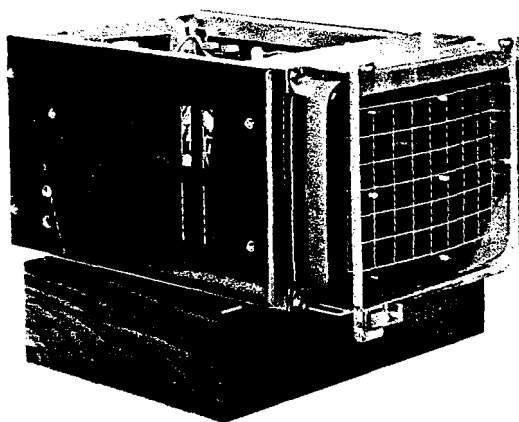

Figure 3-17. Display Adjustments Setup
1. Install the template over the front of the CRT as shown in Figure 3-17.
Place the display module on something so that the display module bottom is lifted about 3 cm (1 inch) off the surface of the workbench as shown in Figure 3-17, to keep the bottom of template from touching the workbench surface.
The display adjustment test pattern will be displayed on the CRT as shown in Figure 3-17.